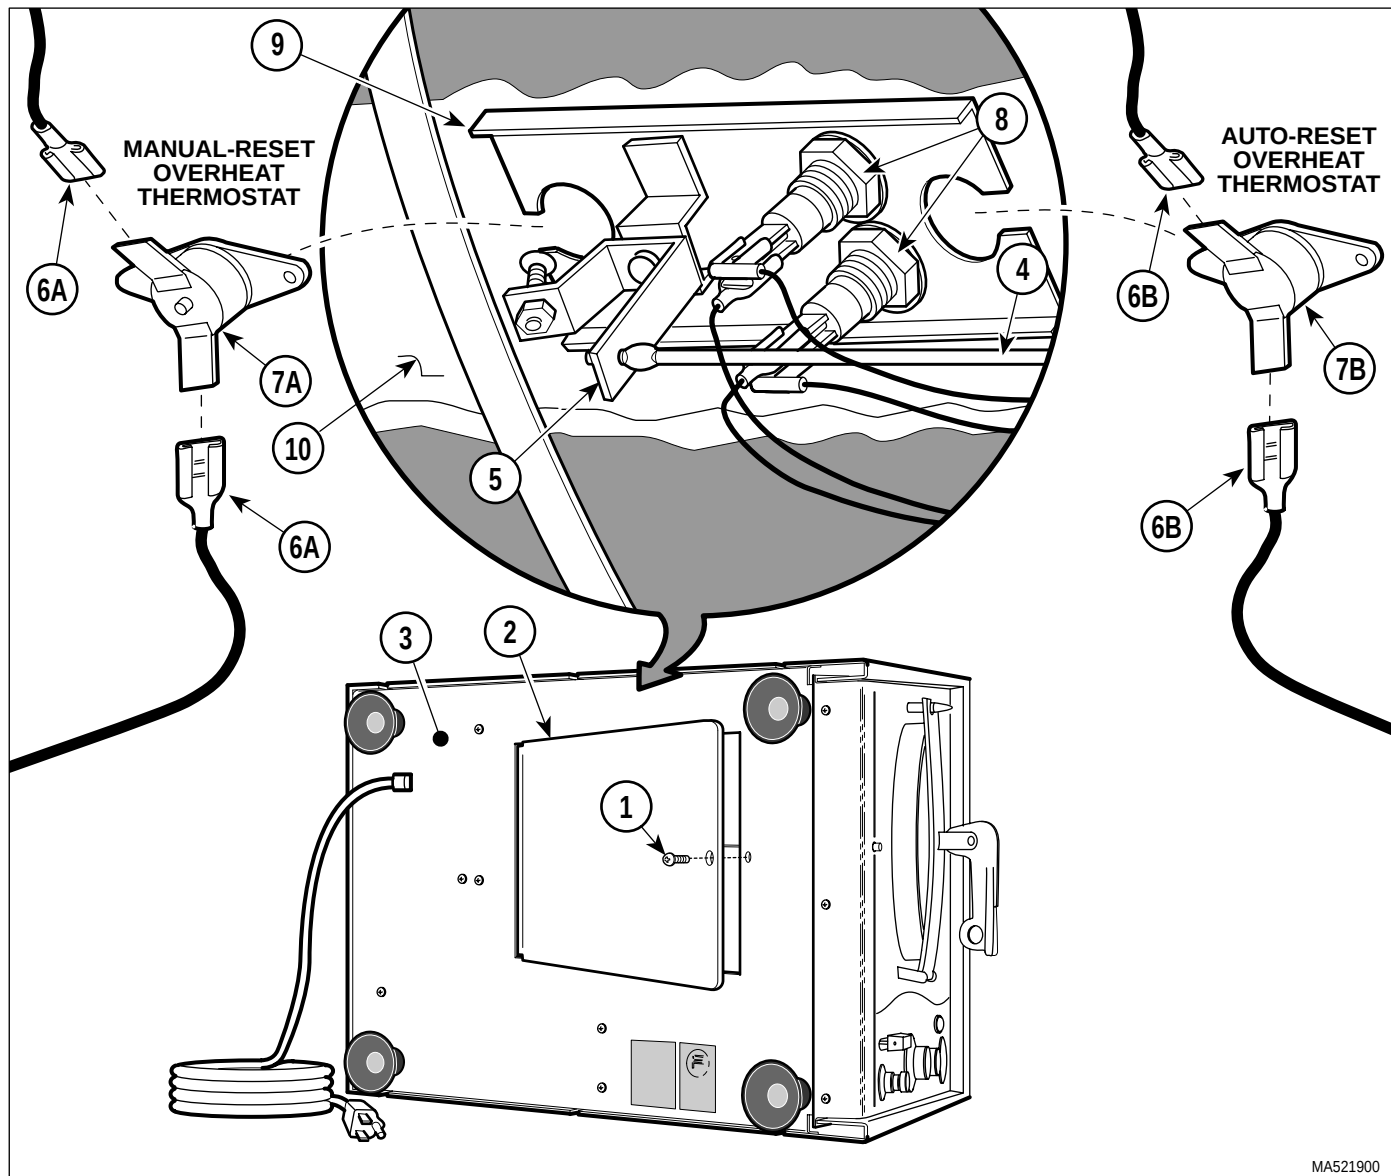

Figure 4-7. Overheat Thermostat Removal / Installation
- (1) Disconnect power cord from wall outlet.
- (2) Drain all water from condensing tank.
- (3) Remove wire rack and trays (Refer to para 4.17).
- (4) Lay unit onto its side.
- (5) Remove screw (1, Figure 4-7) and inspection cover (2) from base (3).
- (6) Taking care not to kink rod (4), flex rod and remove it from rocker bracket (5).
- (7) If removing manual reset overheat thermostat (7A), tag and disconnect two wires (6A) from terminals of overheat thermostat (7A).